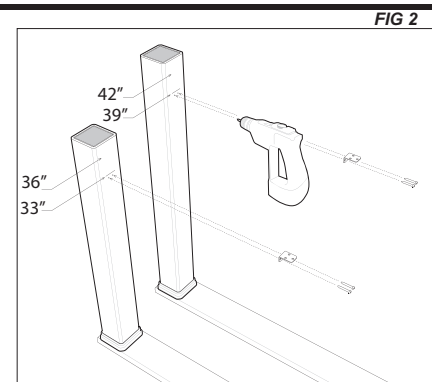

FIG 2
5. Measure up from the deck surface 33" for a 36" railing height or 39" for a 42" high railing and mark. Place top of bracket at marked height and pre-drill through the bottom two screw holes of the rail bracket into the post sleeve. Connect the top two EverGrain brackets to the posts with the 2 provided #10 x 2 1/2" screws. **(Figure 2)**
5. Measure and mark both your determined stair rail height and your top stair bracket placement. Pre-drill through the bottom two stair bracket screw holes into the post sleeve. Connect the top two EverGrain stair brackets to the posts with the 2 provided #10 x 2 1/2" screws. **(Figure 2)**